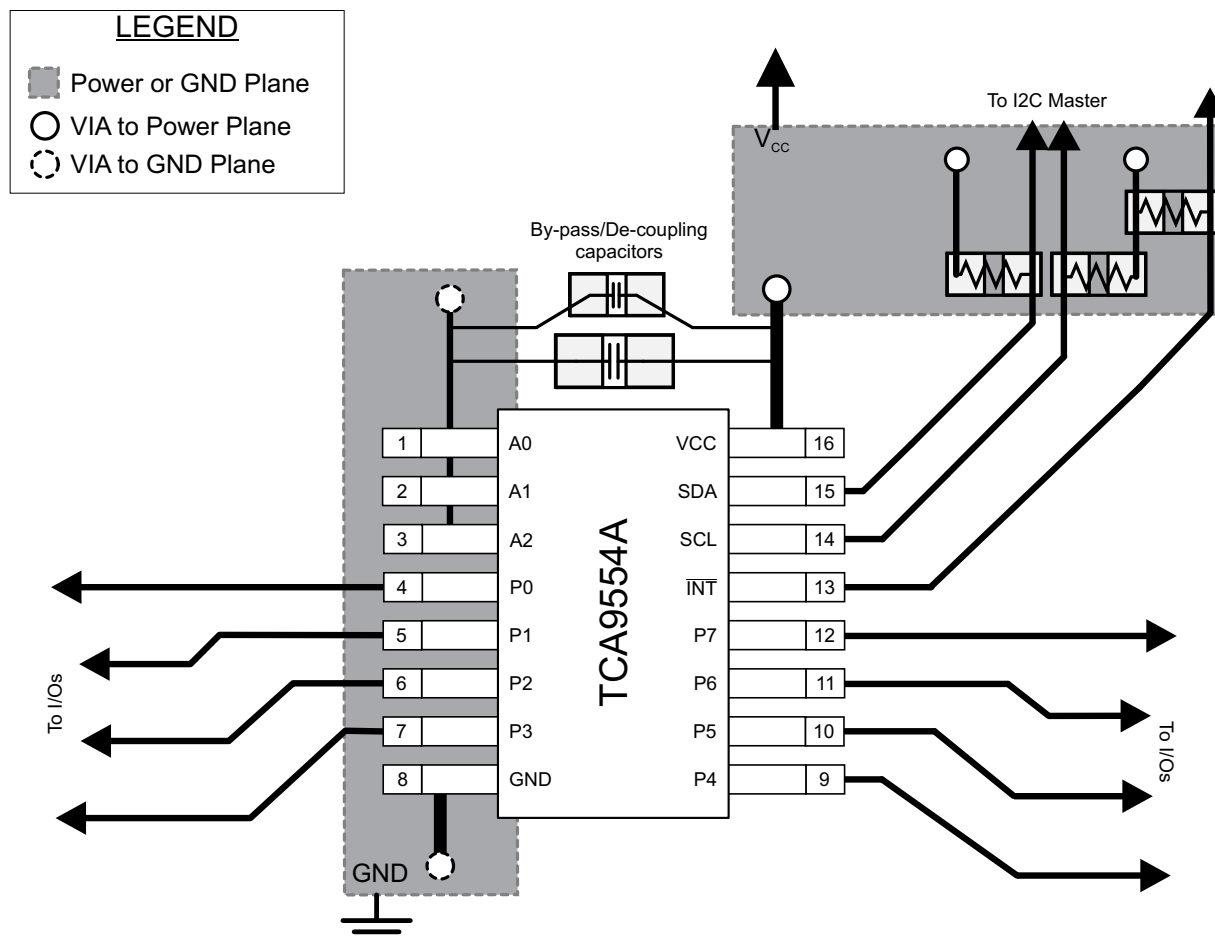

Figure 32. TCA9554A Layout
In all PCB layouts, it is a best practice to avoid right angles in signal traces, to fan out signal traces away from each other upon leaving the vicinity of an integrated circuit (IC), and to use thicker trace widths to carry higher amounts of current that commonly pass through power and ground traces. By-pass and de-coupling capacitors are commonly used to control the voltage on the VCC pin, using a larger capacitor to provide additional power in the event of a short power supply glitch and a smaller capacitor to filter out high-frequency ripple. These capacitors should be placed as close to the TCA9554A as possible. These best practices are shown in Figure 32.
For the layout example provided in Figure 32, it would be possible to fabricate a PCB with only 2 layers by using the top layer for signal routing and the bottom layer as a split plane for power (V_{CC}) and ground (GND). However, a 4 layer board is preferable for boards with higher density signal routing. On a 4 layer PCB, it is common to route signals on the top and bottom layer, dedicate one internal layer to a ground plane, and dedicate the other internal layer to a power plane. In a board layout using planes or split planes for power and ground, vias are placed directly next to the surface mount component pad which needs to attach to V_{CC} or GND and the via is connected electrically to the internal layer or the other side of the board. Vias are also used when a signal trace needs to be routed to the opposite side of the board, but this technique is not demonstrated in Figure 32.